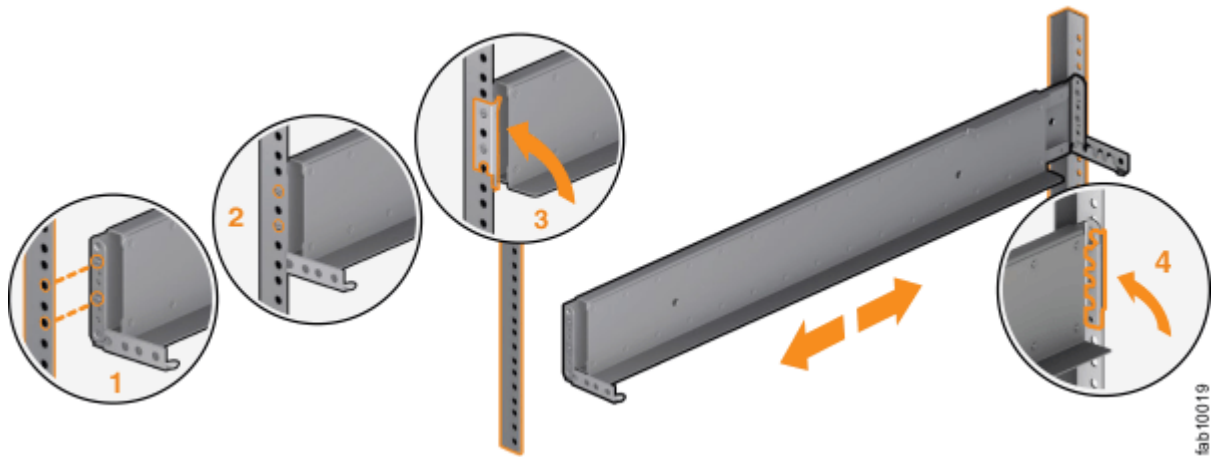

Figure 11. Closing the hinge brackets
7. Close the rear hinge bracket to secure the rail to the rack cabinet flange. See Figure 11 on page 15.
See Figure 11 on page 15.